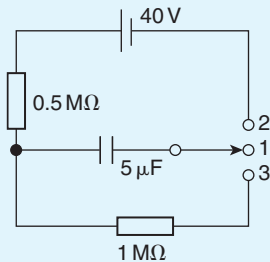

Figure 18.9
- In the circuit shown in Fig. 18.9, with the switch in position 1, the capacitor is uncharged. If the switch is moved to position 2 at time $t = 0\ \text{s}$, calculate the
v_R are equal in magnitude but opposite in direction. The current decays exponentially to zero and since v_R is proportional to the current flowing, v_R decays exponentially to zero. Since $v_L = v_R$, v_L also decays exponentially to zero. The curves representing these transients are similar to those shown in Fig. 18.9.